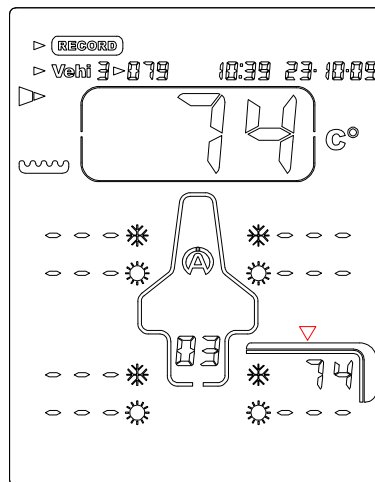

Figure 5
- 6) Press the central button  to record the measured pressure as well as the hour and the date of the moment, then, the point of capture displayed to the screen moves automatically following the sequence programmed in the menu SETUP. In the example (*figure 5*), the device positions itself on the measure of the temperature in the center of the left rear tyre.
- 7) Apply the sensor of temperature on the tyre as indicated on the screen by the arrow (figure 5).